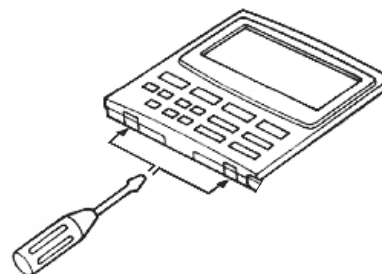

Fig. 2-275
- (1) Remove the cover of the optional wired remote controller. (Fig. 2-275)